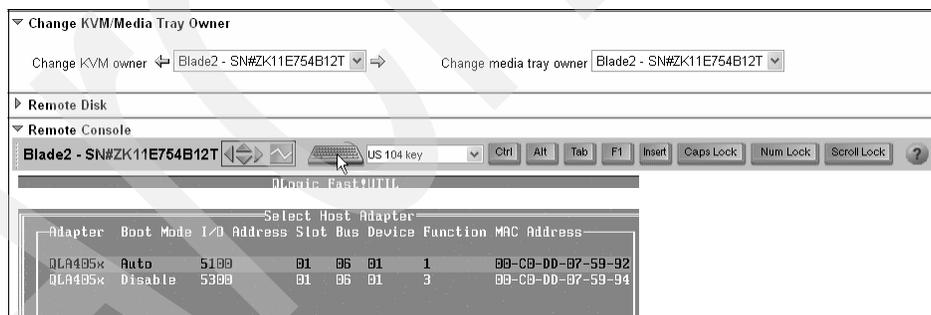

Figure 9-64 Configuring a port through the Remote Control session on the Management Module
- ▶ You only ever see a maximum of two ports on the QLogic Fast!UTIL display, as shown in Figure 9-64. This is because you can only ever have one iSCSI HBA adapter with two initiator ports on a Blade server.
- ▶ Just like the xSeries server, you can configure an additional initiator HBA port in a Blade server from either the BladeCenter’s Keyboard-Video-Mouse (KVM) console, or from a Remote Control session on the Management Module. Note that the Remote Control session on a Management Module has a different appearance and works in a slightly different way than the Service Processor on an xSeries server. An example is shown in Figure 9-64.